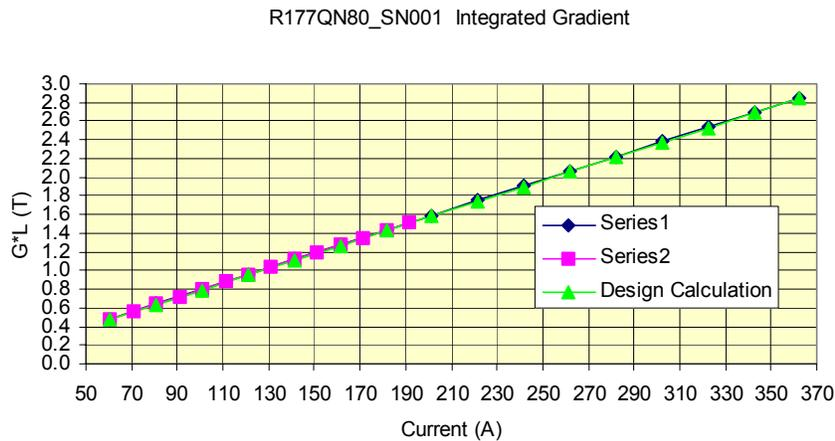

Fig. 1: First article CCL quadrupole field gradient.
Accomplishment: (1) The segment supports for the upstream half of module 1 have been shipped to ACCEL for use in tuning the segments on their temporary assembly frame. The main support stand weldments remain in fabrication in Albuquerque. (2) A design for the layout of the assembly alignment monument system and placement of the alignment targets for CCL module assembly has been developed. The required laser reflector cubes and mounts have been ordered and they are to be shipped directly to ACCEL within the next week. (3) Initial measurements at ORNL of CCL quadrupole magnet (R177QN80) SN#1 shows good results. This is the quad that went back to Milhouse twice before with coil problems. GL data are plotted in Fig. 1. Excellent agreement is obtained with LANL calculations.